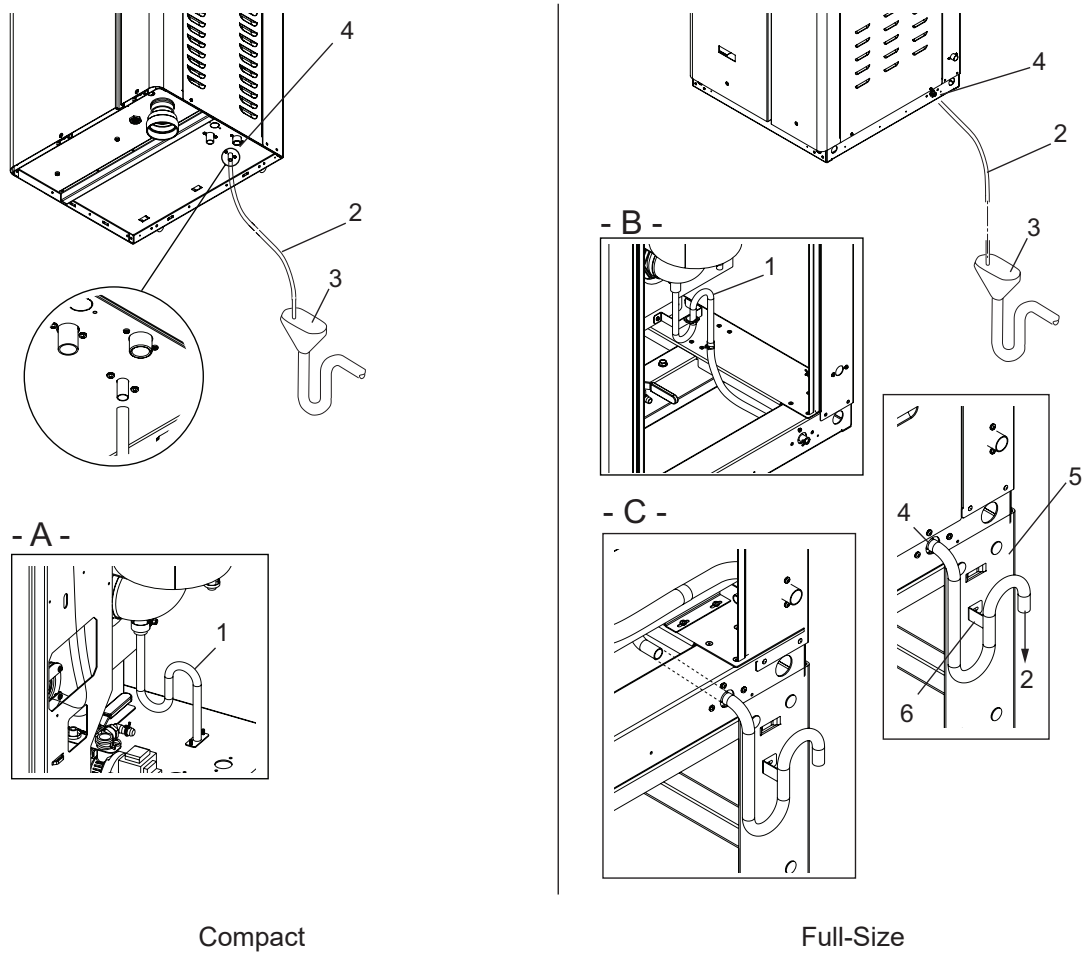

Figure 16: Exhaust Condensate Drain Line.
Install the exhaust condensate drain line (CS/NX model only) as shown in Figure 16.
- Install the condensate drain hose (CS/NX model only), and secure it with a hose clamp – refer to Figure 16 on page 33. The hose must be rated to 212 °F (100 °C). Connect the hose to a condensate neutralization device, if required by local code, before connecting the hose to a drain.